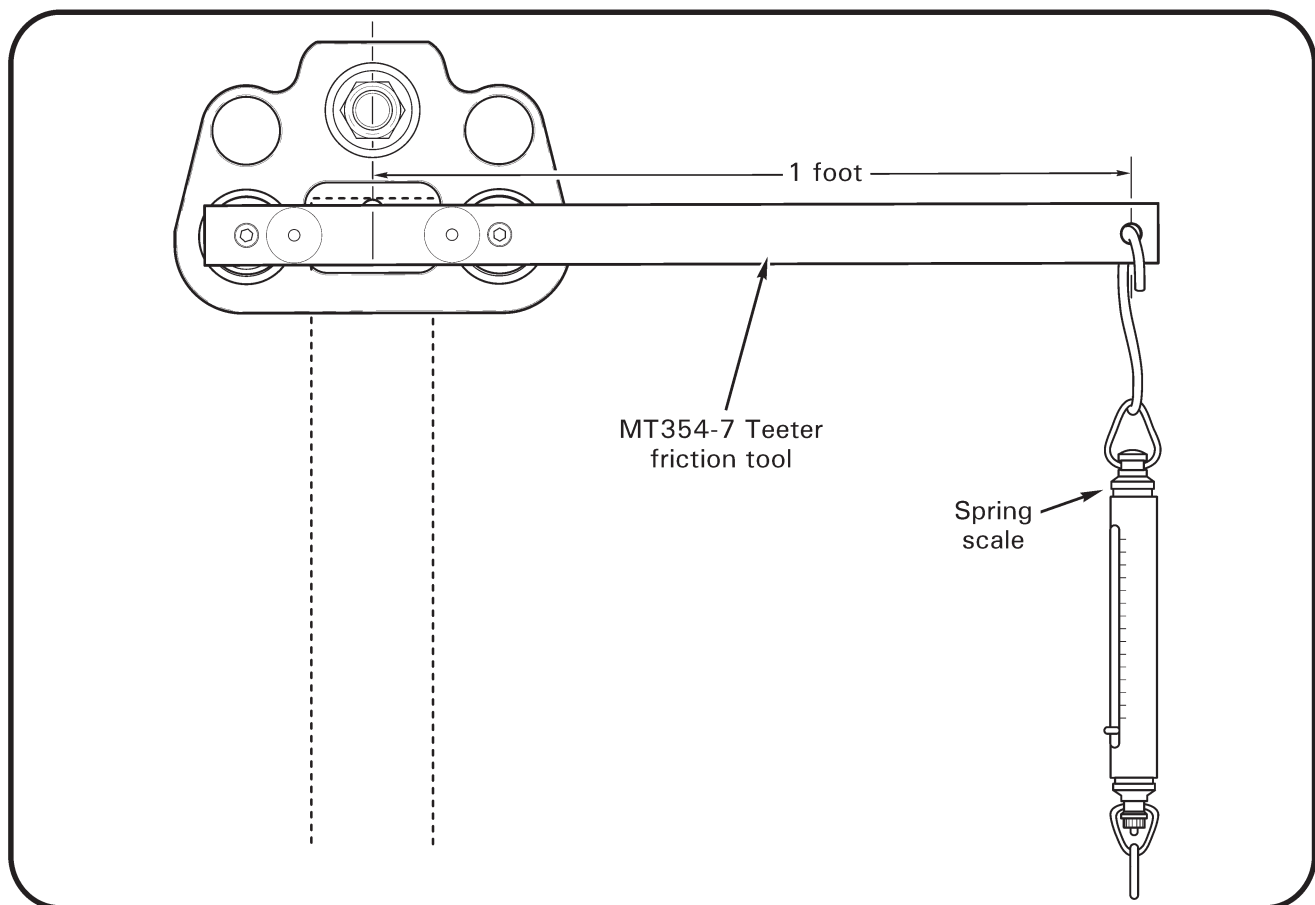

FIGURE 28-10 MEASURING TEETER HINGE FRICTION
3. Refer to Figure 28-10. While torquing teeter hinge bolt per § 23-33, check teeter hinge friction frequently. To check friction, install MT354 teeter friction tool into coning hinge bearings on one side of main rotor hub and measure moving force (not breakaway force) required to teeter main rotor hub with a spring scale.